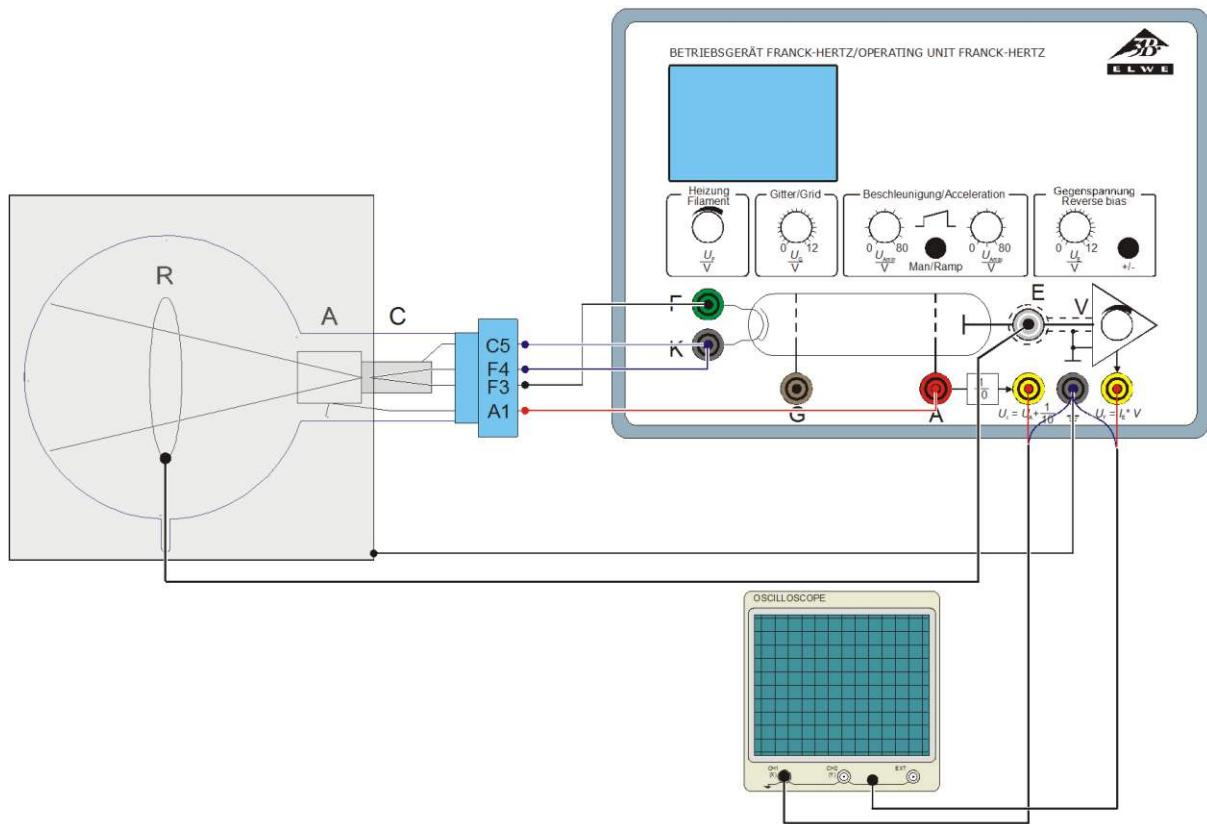

Fig. 3 Experiment set-up - critical potential tube
- Connect terminal F3 on the tube holder with output F of the control unit, connect C5 to output K (C5 and F4 are connected together internally inside the tube) and A1 to output A (refer to Fig. 3).